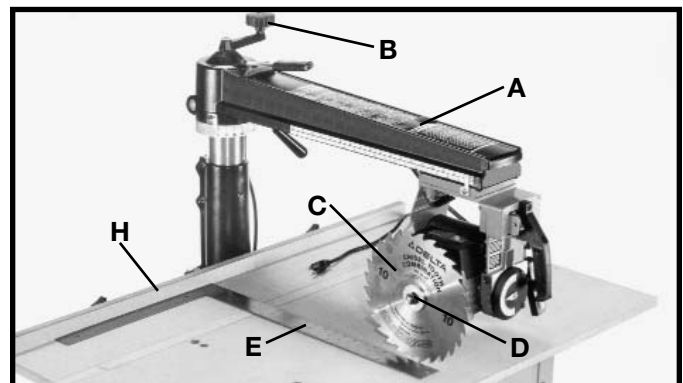

Fig. 32
2. Raise track arm (A) Fig. 32, by turning elevating handle (B) until the blade (C) can be assembled on the motor shaft. Then tighten arbor nut (D) using the wrenches supplied.
3. Place a framing square (E) Fig. 32, against fence (H) as shown, and lower track arm (A) until the blade just clears the table surface.